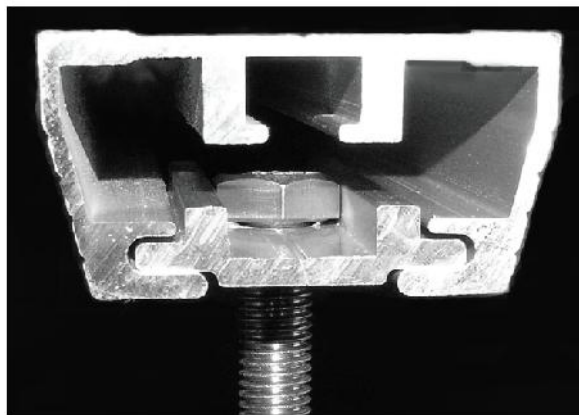

Figure 3
2. Place 8mm bolt into the slide plate. Slide the plate and bolt into the mounting extrusion. See Figure 3.